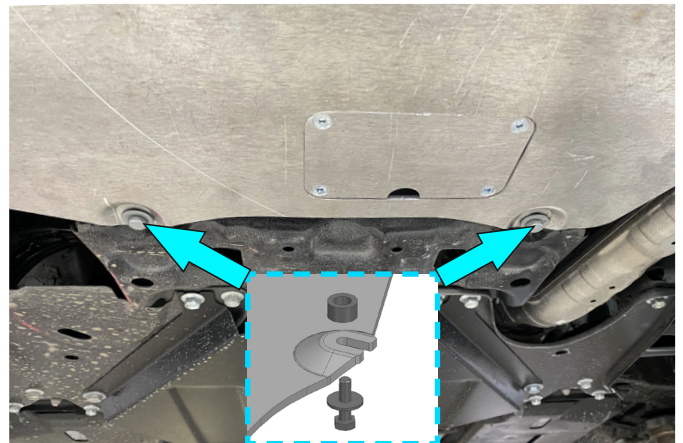

Fig. 4
4. Put rear part of engine skid plate (item 1) on the fasteners (Fig.4).